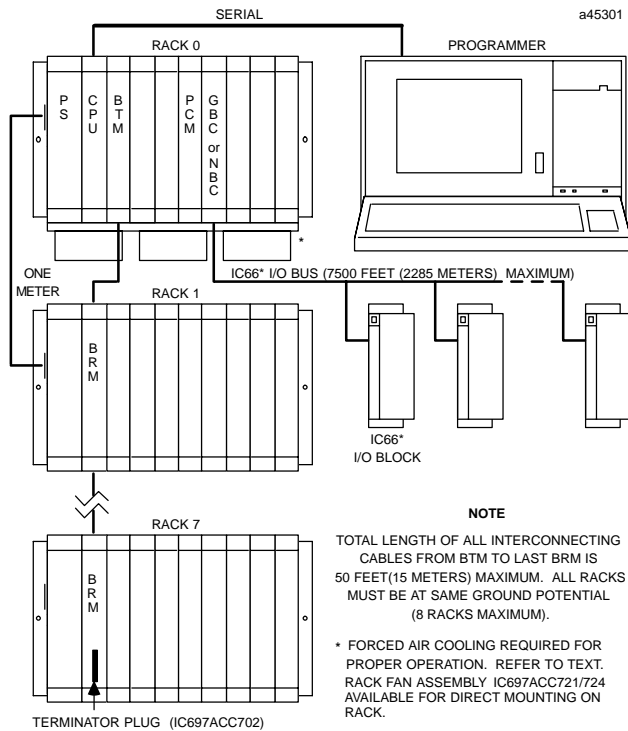

Figure 2. System Configuration, Serial Connection to Programmer
- Install the CSE 924 module in slot 1 of rack 0 (see Figure 2).